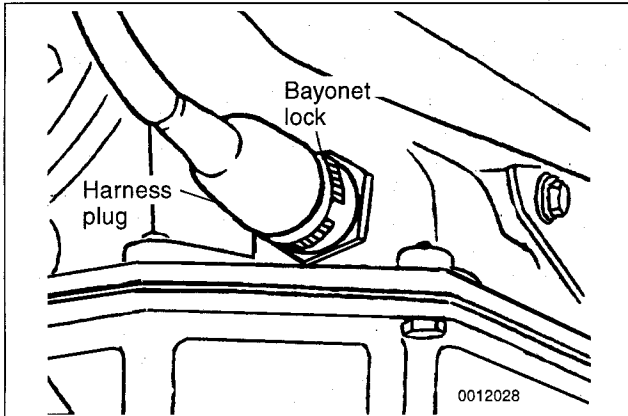

Fig. 8. Harness connector at automatic transmission.
8. Disconnect main harness connector from transmission by turning its bayonet lock ring counterclockwise. Remove wiring harness from transmission housing. See Fig. 8.